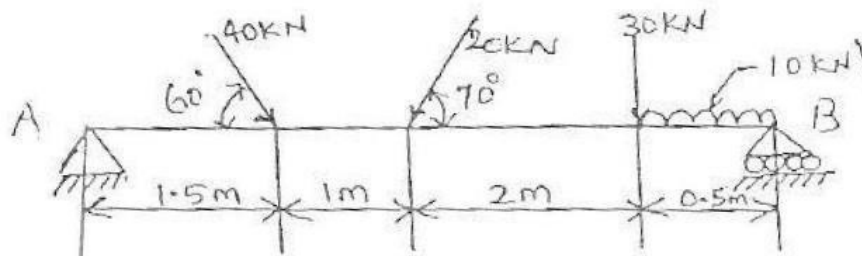

Figure 3: 4A
4. (a) Solve reactions at points **A** & **B** as shown in **fig 3**. [7m]